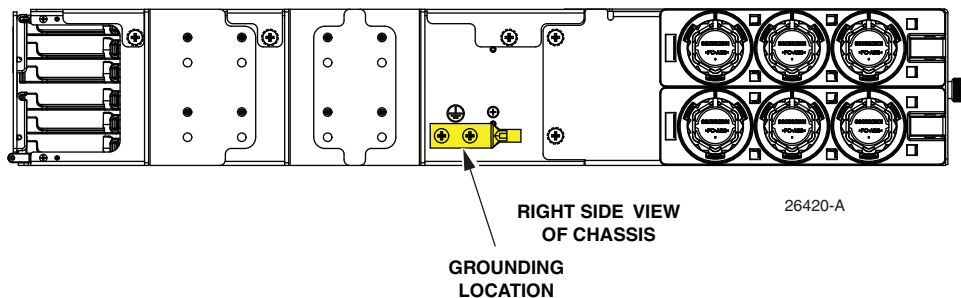

Figure 10. Grounding Location
3. Once the mounting brackets are located in the correct position (Figure 10):
Use the following procedure, referring to Figure 10.